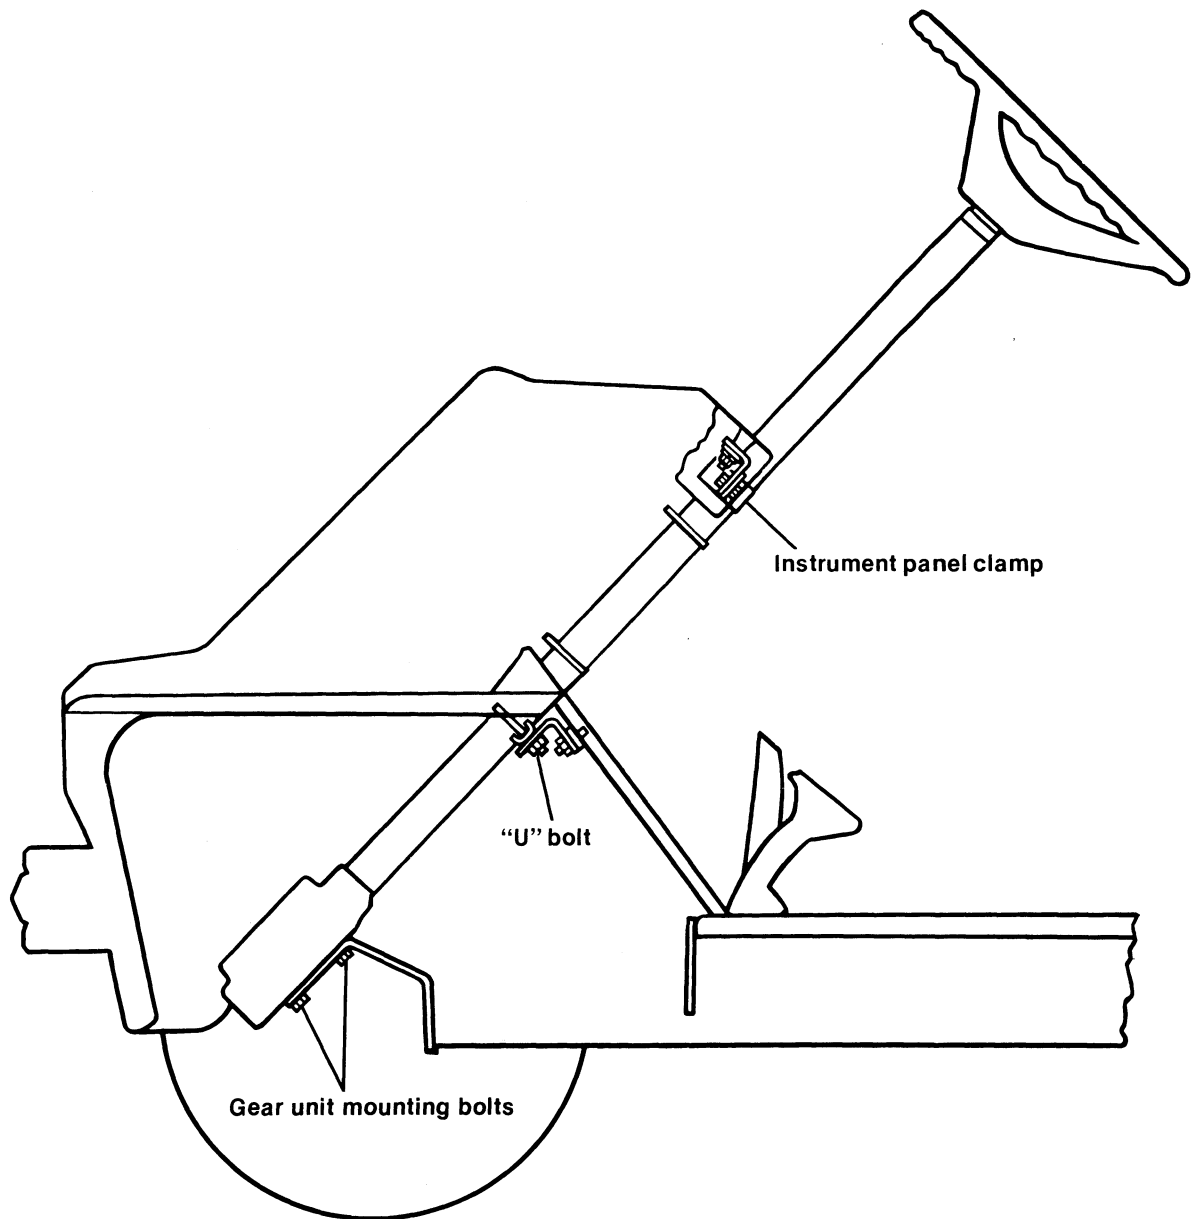

Figure 2-17. Installing Steering Gear Unit
See Figure 2-17. Steering unit must be secured as follows:
5. See Figure 2-17. Loosen the clamp at the instrument panel, the U-bolt below the bulk head and the three bolts securing the gear unit.